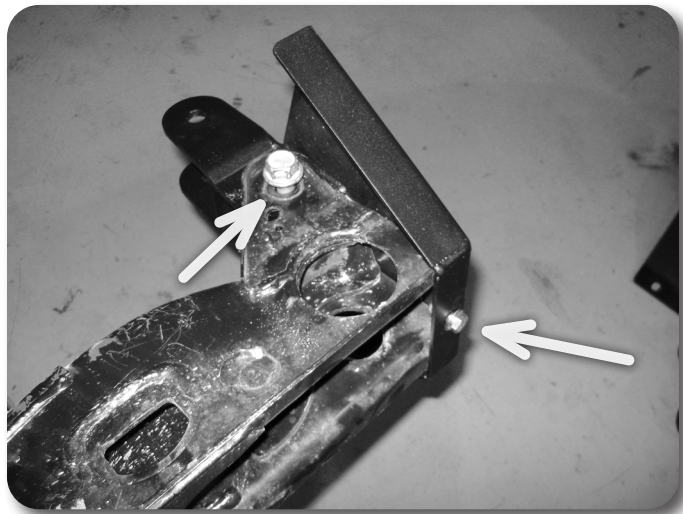

Figure 47
72. Install the provided torsion bar cross member bracket on the torsion bar cross member. Fasten with the factory bolt and the provided 5/16" x 1" bolt, nut and washers through the bottom of the new bracket into the drilled-out holes in the cross member. **Figure 47** Torque the 5/16" hardware to 20 ft-lbs and factory hardware to 90 ft-lbs.